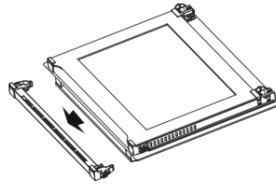

Figure 4
- Pull the upper section of the door frame towards you (Figure 4).